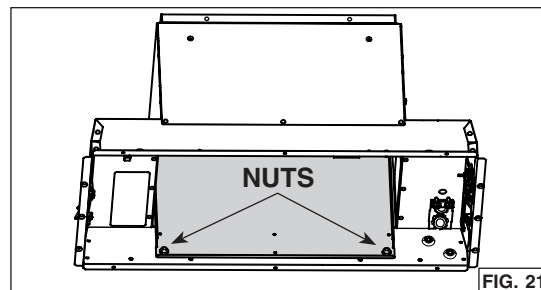

FIG. 21
7. From inside the unit, detach the back plate (grey part in FIG. 21) by removing its both retaining nuts using 3/8" diameter socket. Set aside the nuts and plate.